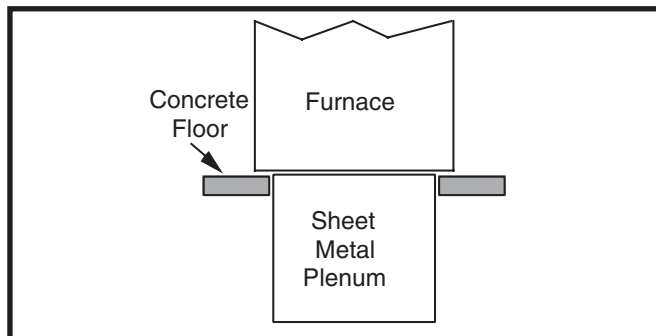

Figure 11. Furnace on a Concrete Slab
2. Position the plenum and the furnace as shown in Figure 11.